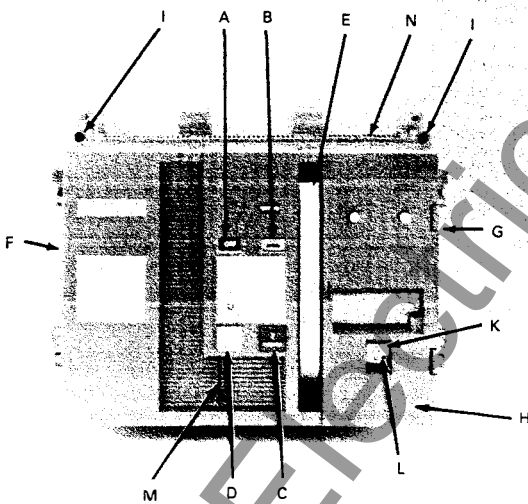
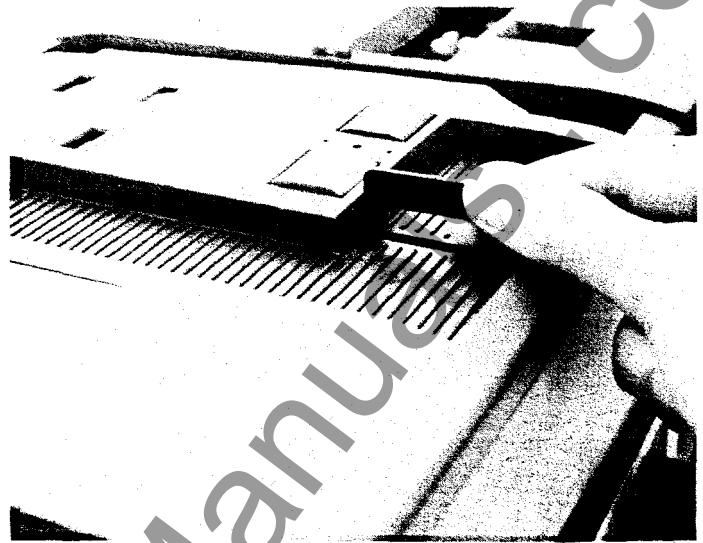

Figure 6. Front of the breaker, showing the locations of standard features.
Figure 8. Side view of the breaker, showing the padlock tab extended.
Power Break II circuit breakers are equipped with the following standard features. The letters are keyed to the breaker photographs in Figures 6 and 7.
2. Grasp the padlock tab (see Figure 6) and pull it out until it is fully extended, as illustrated in Figure 8. Note that if the breaker contacts are closed, the padlock tab will not extend.